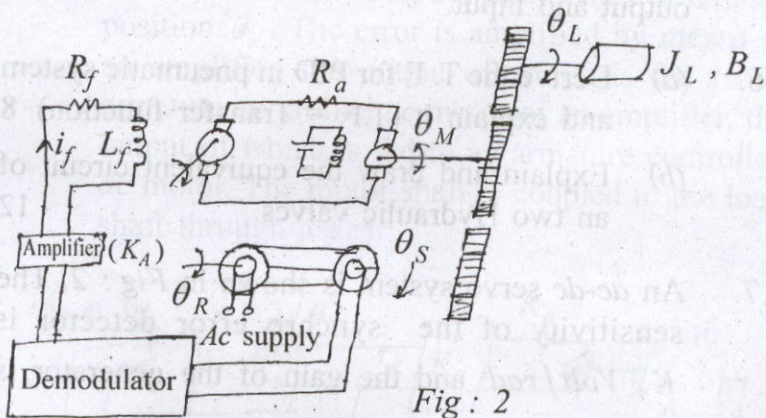

Fig : 2
7. An *ac-dc* servo system is shown in Fig : 2. The sensitivity of the synchro error detector is $K_S\ Volt/rad$ and the gain of the generator is $K_g\ Volts/Field\ amp$. The *dc* motor is separately excited and has a back *emf* constant of